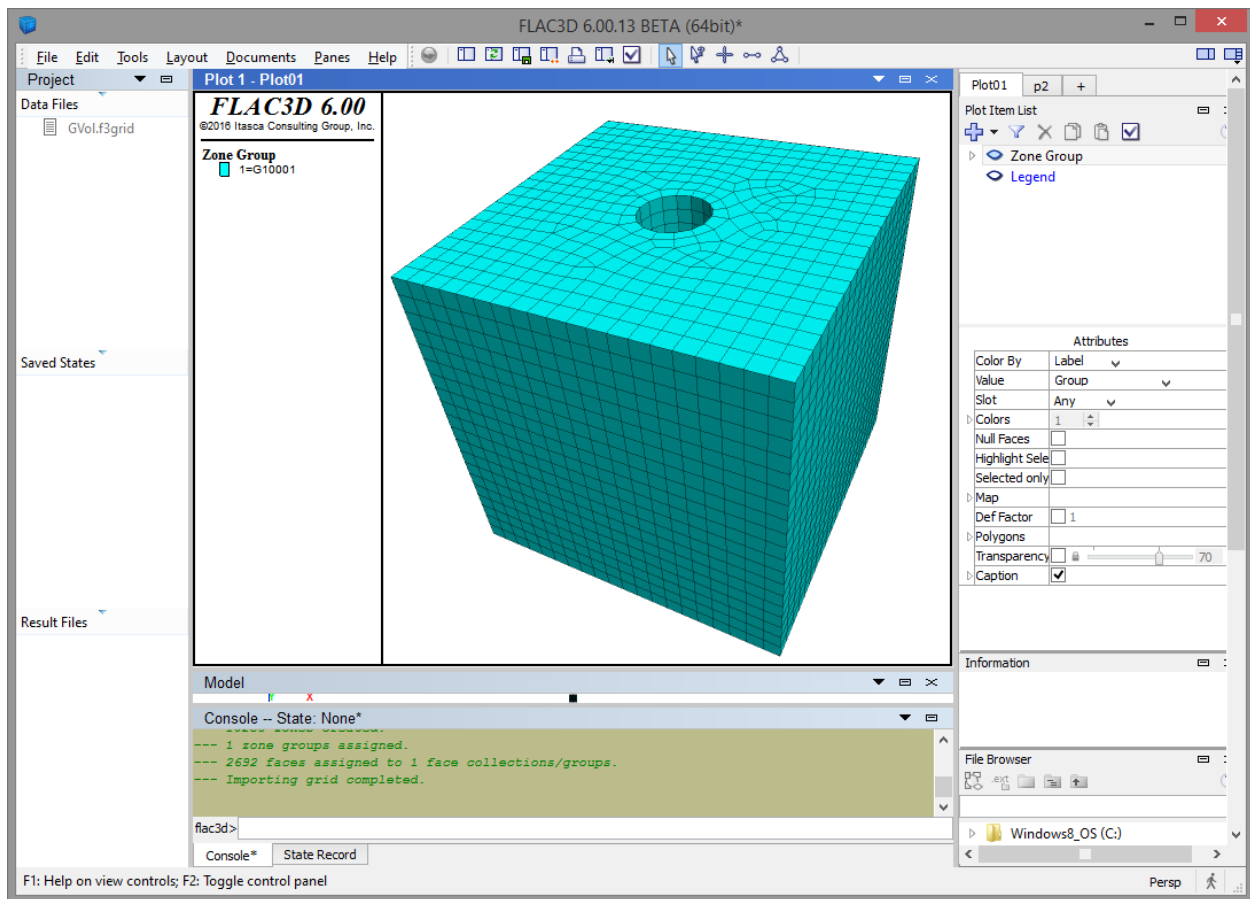

Figure 42: *FLAC3D* grid of a cylindrical shaft in a box.
11. In *FLAC3D*, import GVol.f3grid using File|Import Grid. Your grid should be similar to that shown in Figure 42.